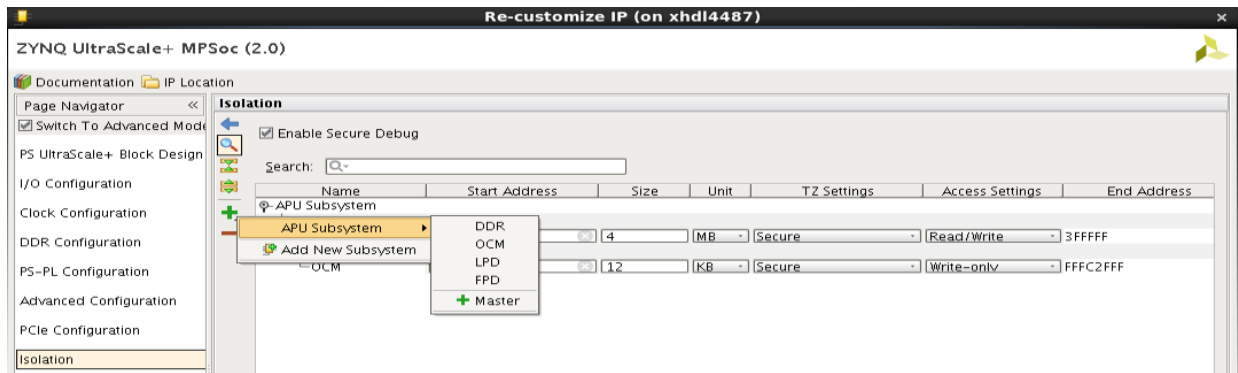

Figure 4-16: Selecting APU Subsystem and OCM
- Click the + button and then select **APU Subsystem** and **OCM** as shown in Figure 4-16.